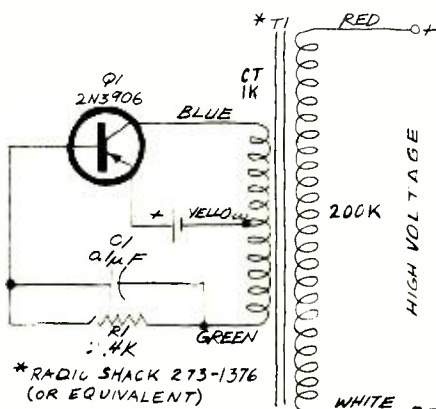
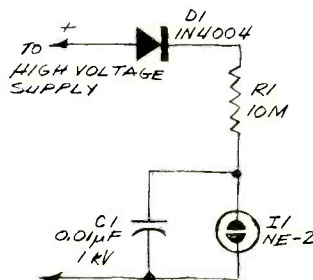
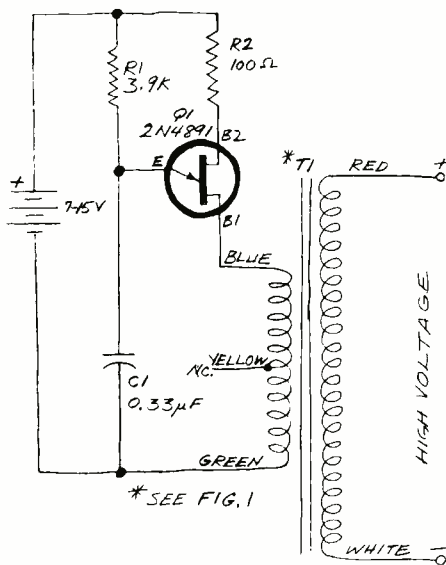

Fig. 1. Simple dc/dc converter.
Fig. 2. Neon relaxation oscillator.
Fig. 3. UJT delay converter.
**Dc-to-dc Converters.** Let's examine two very simple dc-to-dc converters that can be used in low-current, high-voltage applications. The first circuit, shown in Fig. 1, is ultra-simple and illustrates the miniaturization potential of a solid-state high-voltage power supply.
The current output of this circuit is minuscule, but it can easily ionize a neon lamp or power a semiconductor laser power supply. It can also operate the simple neon-lamp relaxation oscillator shown in Fig. 2. This circuit will flash about once a second with the component values shown. In operation,  $C_1$  charges through  $R_1$  until the breakdown voltage of  $I_1$  is reached. When  $I_1$  fires,  $C_1$  discharges through  $I_1$ , and the cycle repeats. Diode  $D_1$  keeps  $C_1$  from discharging back through the transformer winding.
The current drain of the Fig. 1 circuit connected to the neon flasher in Fig. 2 is fairly low. The circuit draws 12.3 mA from a fresh D cell at 1.5 volts, 8.3 mA from a fully charged 1.2-volt nickel-cadmium cell, and only 6.8 mA from a 1-volt source.
The simple circuit in Fig. 1 is typical of most dc-to-dc converters in that the transformer plays an active role in both the oscillator and HV sections of the circuit. Dc-to-dc converters can also be designed so that the transformer functions strictly as a voltage converter. One possibility is shown in Fig. 3, where a unijunction transistor oscillator is connected to a high-turns-ratio input transformer like the one used in Fig. 1. The oscillator produces a series of fast risetime pulses each time  $C_1$  discharges through the emitter-to-B1 junction of  $Q_1$ . The pulses are passed through the low-impedance winding of the transformer
Due to the presence of the unijunction transistor, the circuit in Fig. 3 requires a higher operating voltage (7 to 15 volts) than the circuit in Fig. 1. But at 10 volts the circuit will operate the neon flasher in Fig. 2 with a current drain of only 0.5 mA. This corresponds to a total power consumption of about 5 mW versus about 18 mW for the previous circuit.